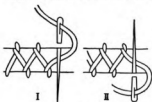

FIGURE 43
**8. Fagoting.** *Diagonal Fagoting* (Figure 43). — After the raw edges of the material have been finished with a hem, baste the